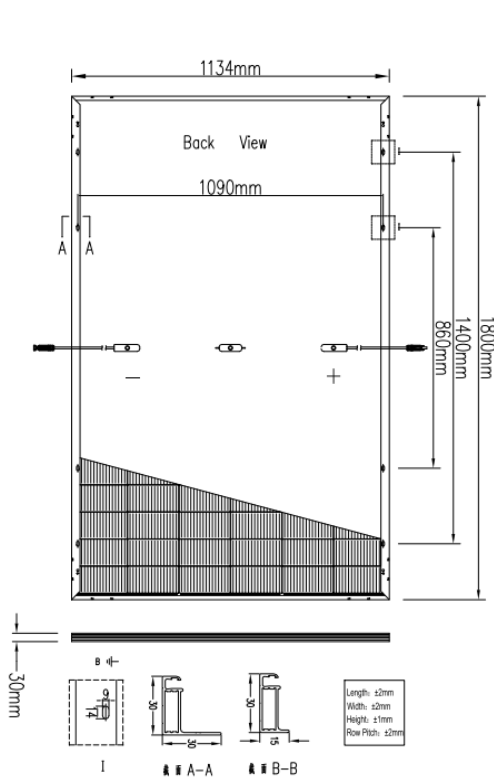
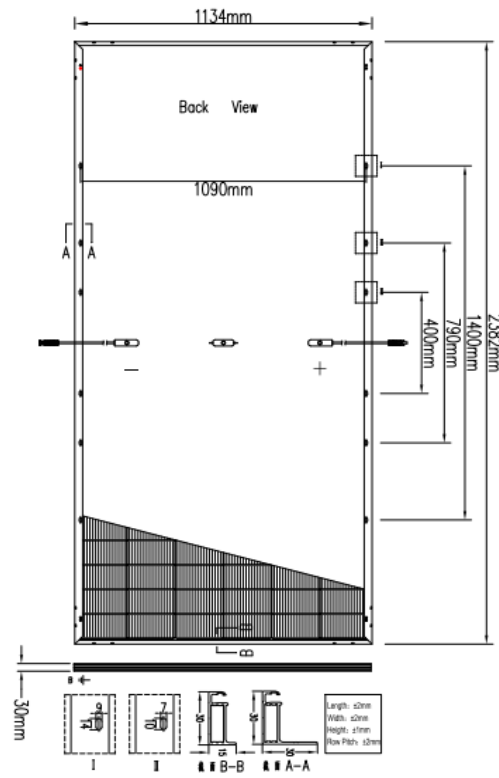
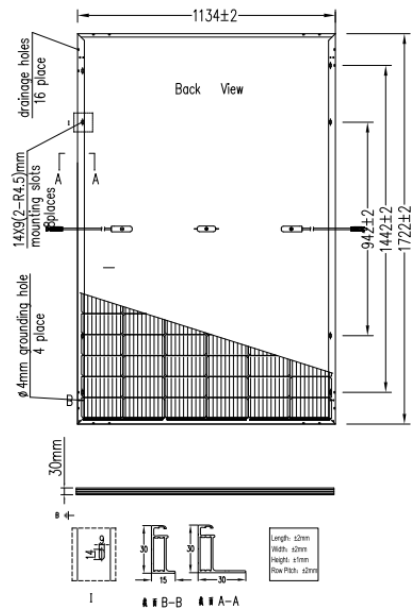

Fig.10-1 UL-XXXM-108CHVN
Fig.10-2 UL-XXXM-144CHVN
Fig.10-3 UL-XXXM-108HV
- ① Each module has two grounding holes (see Fig.10-1, Fig.10-2, Fig.10-3,). The symbol is located adjacent to the terminal ($\frac{\perp}{=}$). The grounding point must be installed separately from the mechanical mountings.